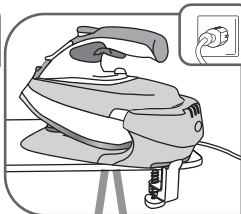

Fig.6
- Connect the base to a 220-240V socket – fig.6.